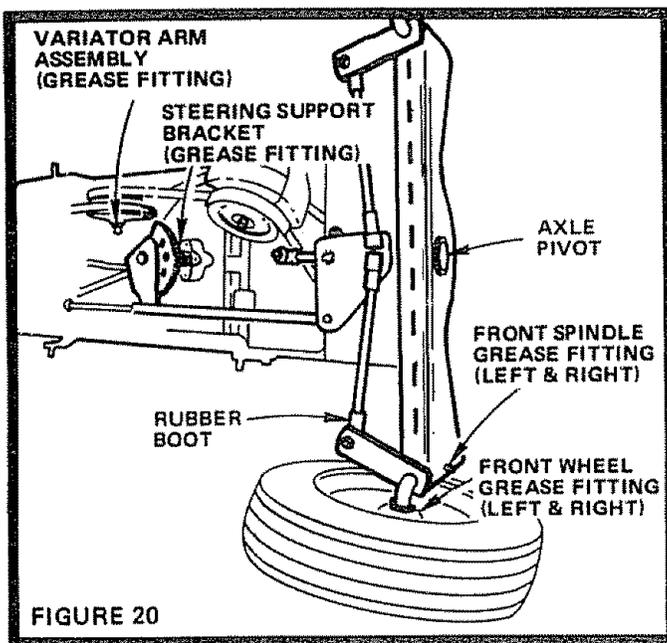

FIGURE 20
- Front Axle Pivot (Fig. 20).
- Move Rubber Boots to expose Ball Joints on Tie Rods and Steering Link (Fig. 20)